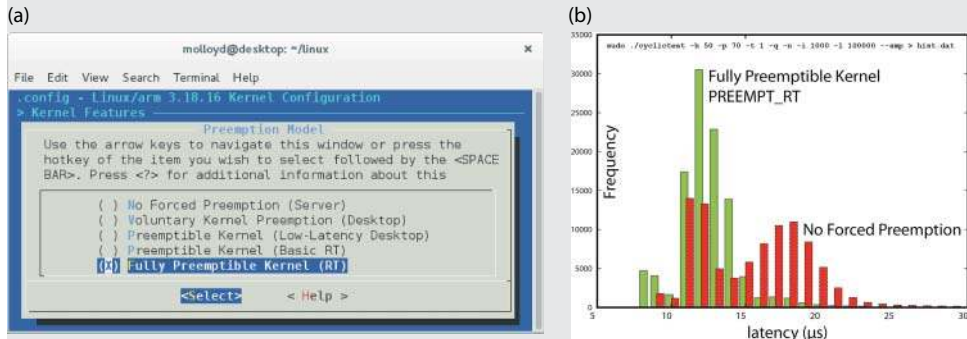

Figure 7-15: (a) The PREEMPT_RT menuconfig option (b) The results histogram of the cyclicttest under load
- In the Kernel Features menu, you can see that the number of CPUs is set at 4 for the RPi2/3. You can alter the Preemption Model in the same menu (see Figure 7-15(a)).
In Figure 7-15(a), the RT patch has been applied, which results in a new option for a fully preemptible kernel in the `menuconfig` tool.
The patched kernel can be deployed using the steps that follow in this section. On reboot, `uname -a` should display a message that includes RT. Figure 7-15(b) illustrates the cyclicttest results histogram of the fully preemptible kernel in comparison to a kernel with no forced preemption. These kernels were tested under load by using the